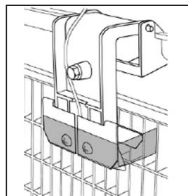
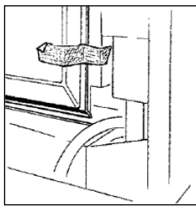

Fig. 7.
Fig. 8.
e) Unlock the sensor and the baffle by removing the transit packaging and tape, which have been applied to avoid any damage during transportation (Fig.7 & Fig.8).